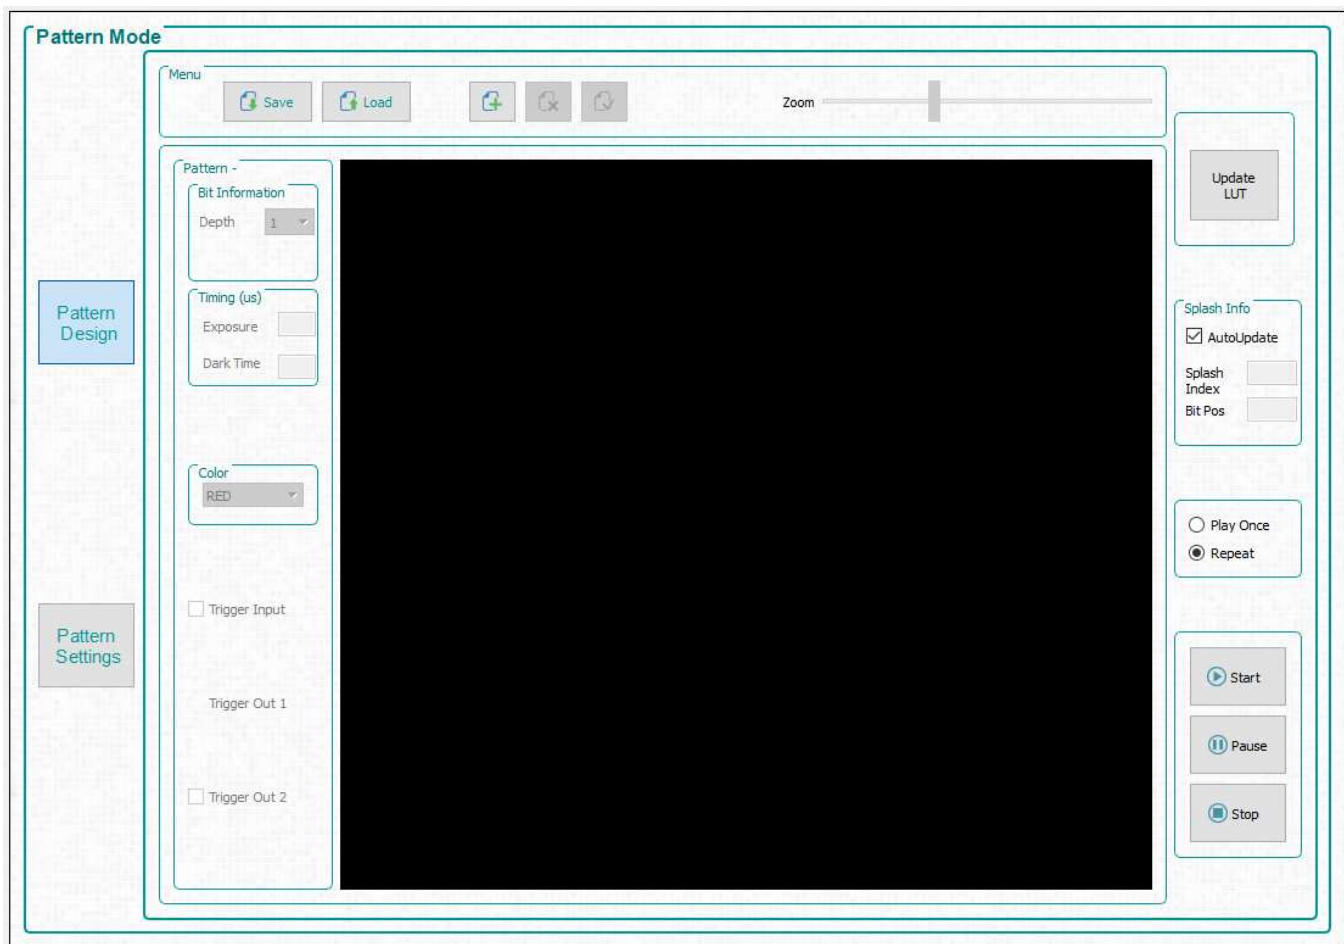

Figure 3-4. Pattern Mode Design Panel
Click the *Pattern Mode* button at the top of the GUI to display the *Pattern Mode* panel as shown in Figure 3-4.
2. Select *Pattern On-The-Fly Mode* from the *Operating Mode* group box, and then click the *Pattern Design* button so that the large black panel is displayed as shown in Figure 3-4.